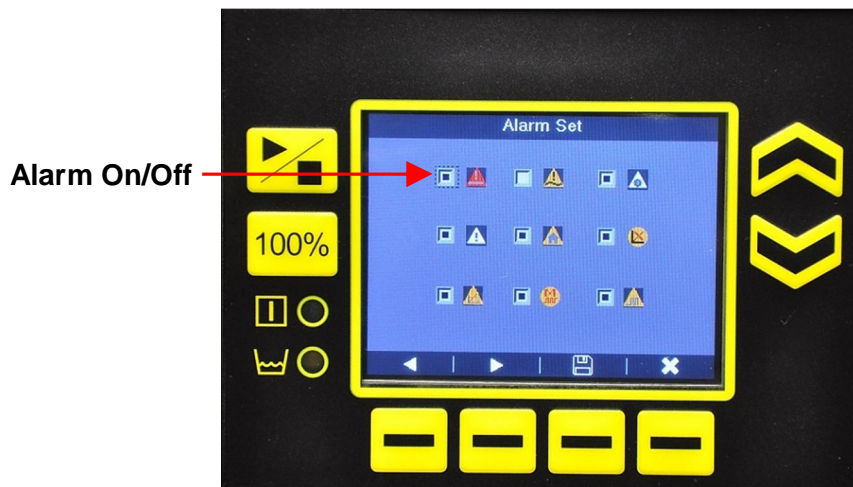

Figure 13: Alarm Set
1. To configure, from the settings screen navigate to **Alarm Set** (Figure 13) and press **Enter** .